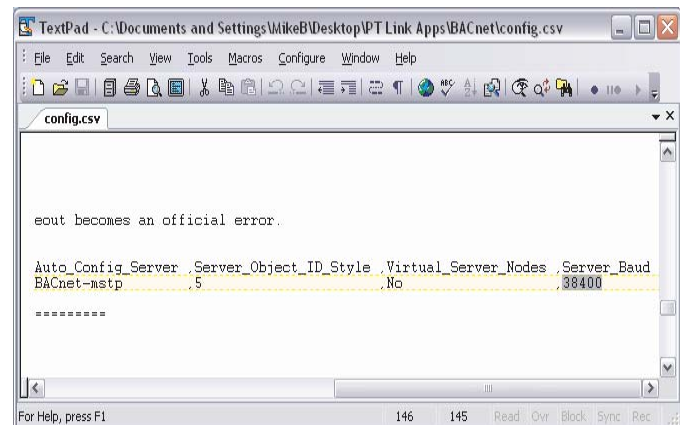

Figure 19: Changing the Baud Rate in Notepad
13.) If the server baud rate needs to be changed, go to the 'Connections' section and only change the SERVER_BAUD (**Figure 19**). Possible Baud Rate values are (9600, 19200, 38400, 76800). The default Baud Rate is 38400. You can obtain this information from your BAS Integrator.